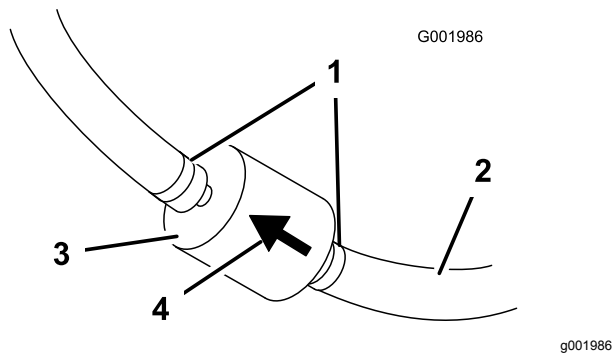

Figure 32
5. Squeeze the ends of the hose clamps together and slide them away from the filter (Figure 32).